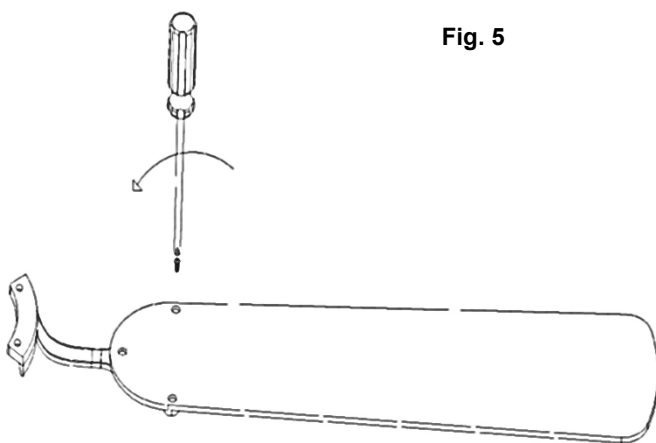
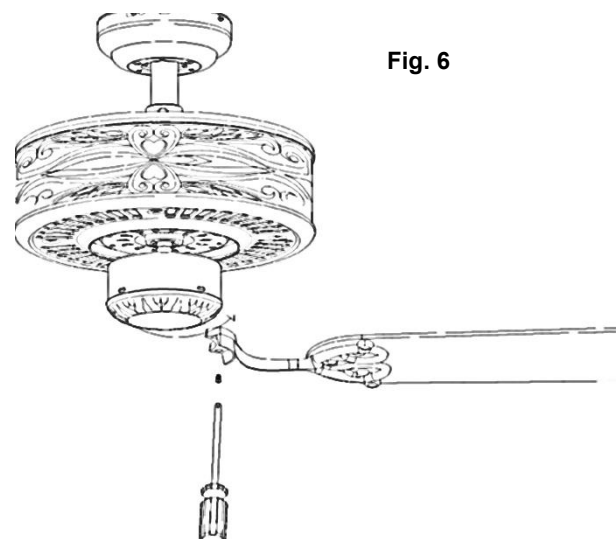

Fig. 5
Fig. 6
Blade attachment (Fig. 5 & Fig. 6)
1. Assemble the blades and blade bracket together using the blade bracket / blade screws set. (Fig. 5)
3. Secure the blade assembly onto the motor by tightening 2 screws with spring washers. Ensure all screws are tightened evenly to reduce the chance of warping or unbalancing. (Take care not to over tighten as this can damage blades). Repeat the process on remaining blades. (Fig.6)